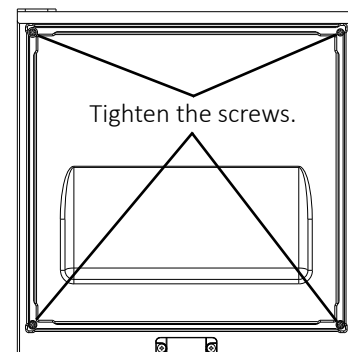

Fig. 19
7. Tighten the four M4x25 pan head screws installed in step 5 (See Fig. 19).